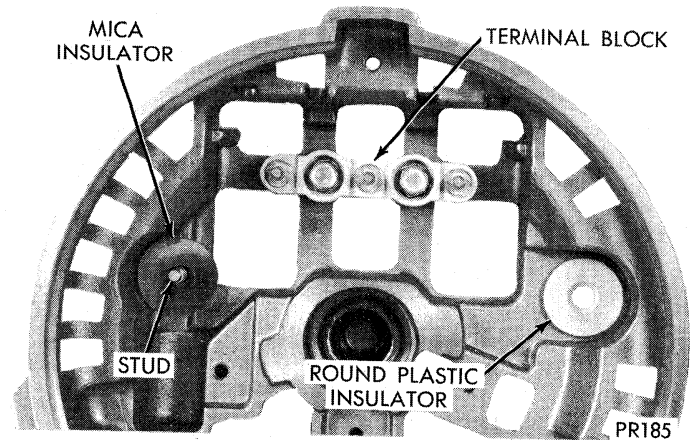

Fig. 32—Installing Insulators
(6) Install mica insulator on heat sink mounting stud in end shield. Install round plastic insulator flat face up in battery stud hold in end shield, (Fig. 32).